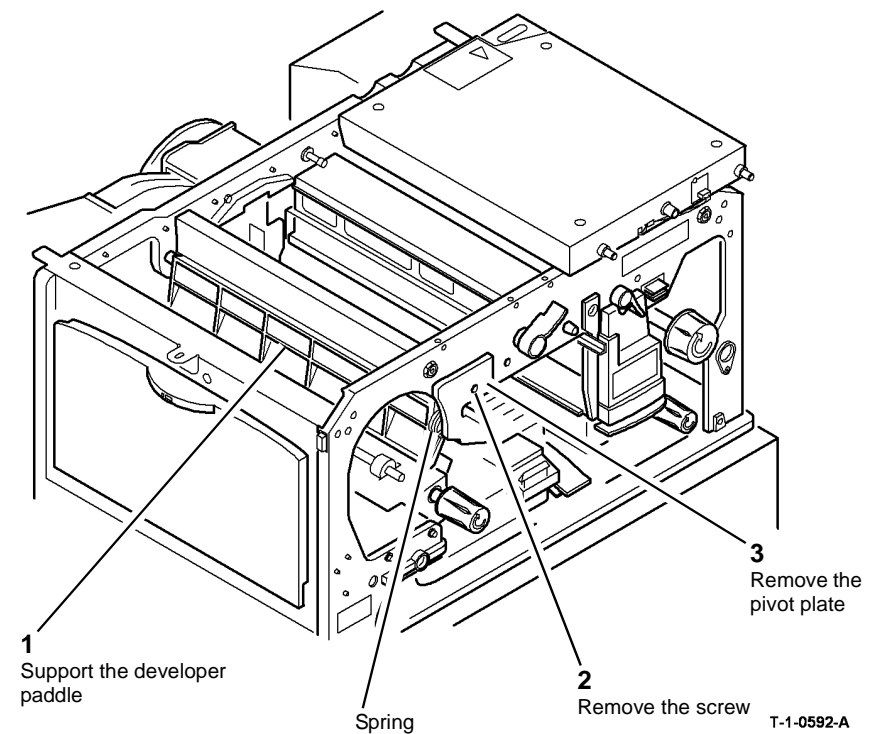

Figure 2 Remove the pivot plate
4. Remove the pivot plate to release the developer paddle, **Figure 2**.
- c. When reinstalling the developer paddle into the pivot plate, check that the spring is correctly located on the tie bar and on the feature on the developer paddle, Figure 2.